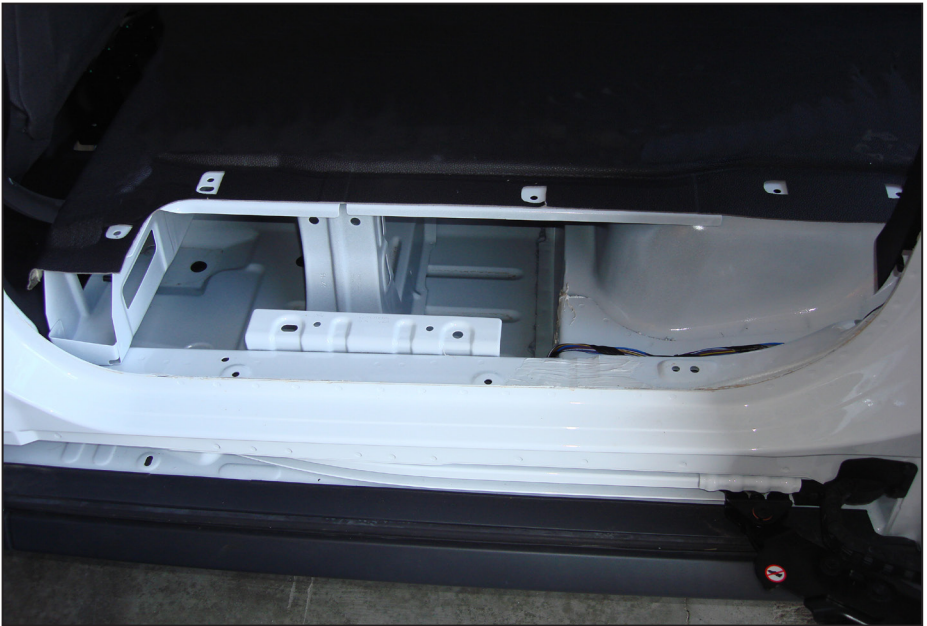

Figure 31 — Access the sub floor
- Remove the plastic step to provide access to the sub floor (Figure 31).